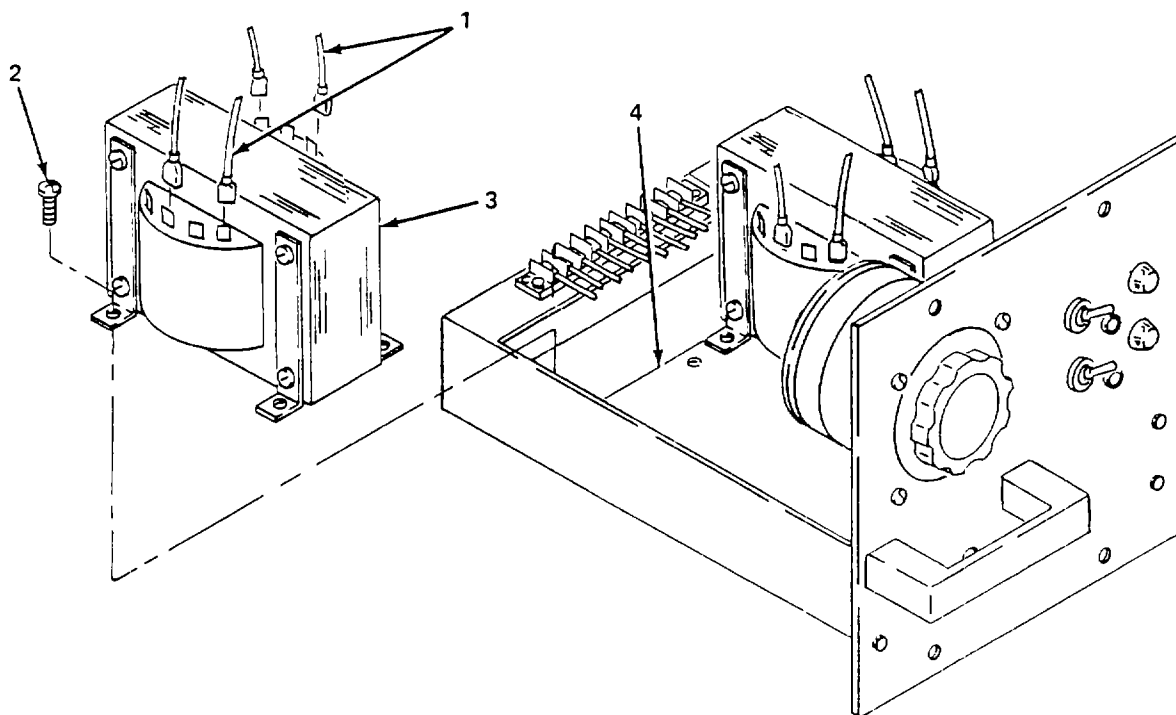

Figure 5-20. Double Light Power Supply (Inner Lock) Transformer, Replace.
(4) *Replace transformer.* (figure 5-20)